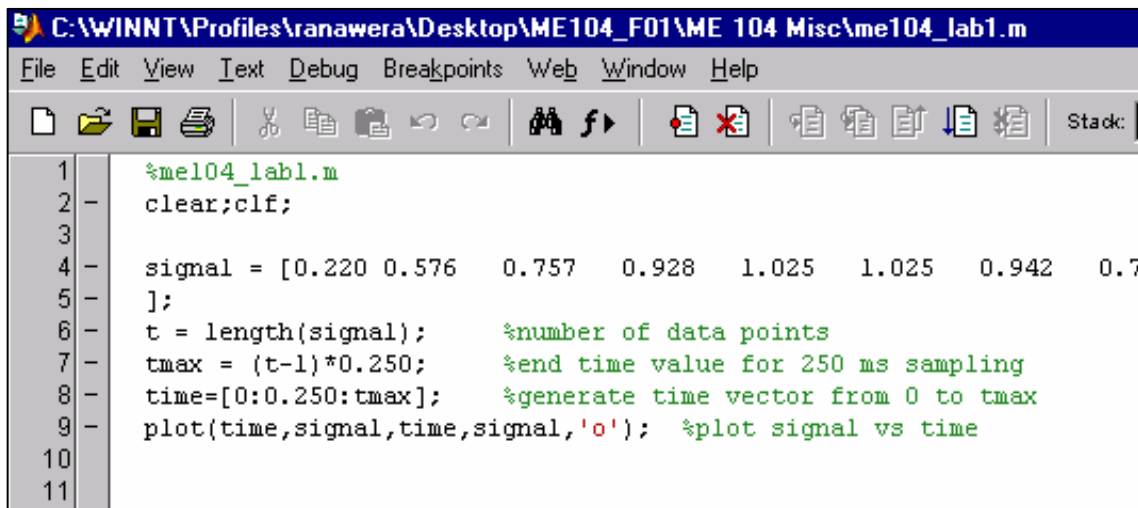

Figure 3
13. Figure 3 shows a sample m-file for plotting a row-vector (such as signal) versus time.